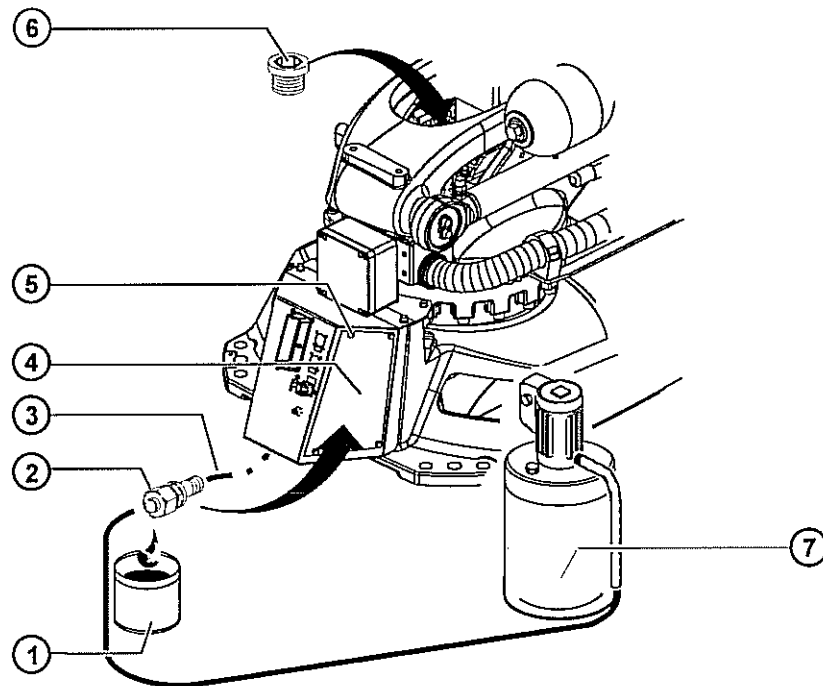

Fig. 10-2: Oil change, A1
1. Remove 4 Allen screws with conical spring washers, and take off interface A1 or cover (>>> Fig. 10-2).